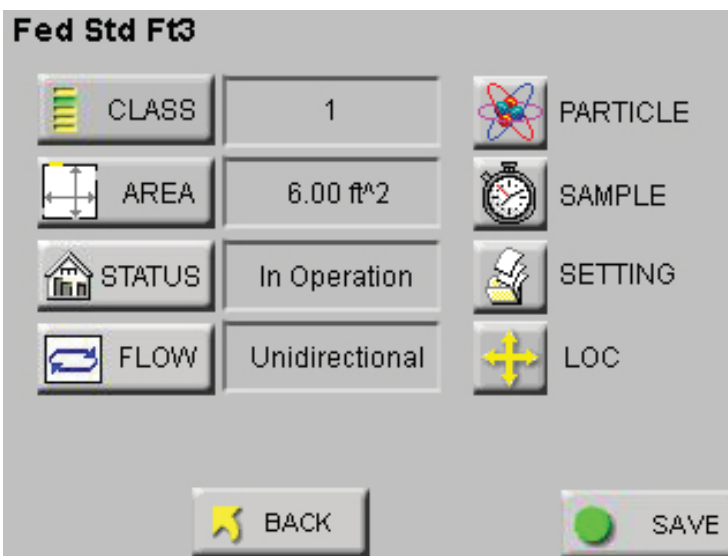

Figure 6-83 Report Setup Screen
- Press the SETUP button; the Report Setup screen displays as shown in Figure 6-83.